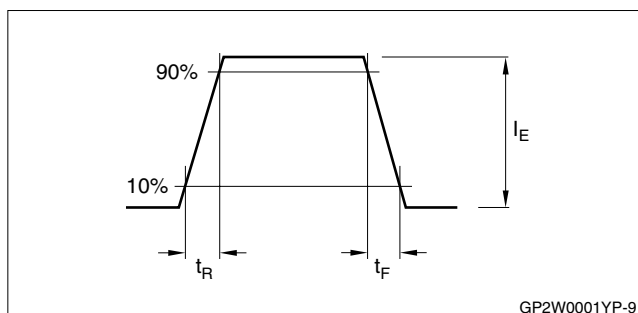

Figure 9. Output Waveform Specification (Emitter Side)
11. BR = 115.2 kbps, $\phi \leq 15^\circ$, $V_{CC} = 3\text{ V}$, $R_L = 2.2\text{ }\Omega$, $V_{INTX} = 2.7\text{ V}$, $R_2 = 1\text{ k}\Omega \pm 5\%$, $CX_2 = 1,500\text{ pF}$. See Figures 9, 10, and 11.